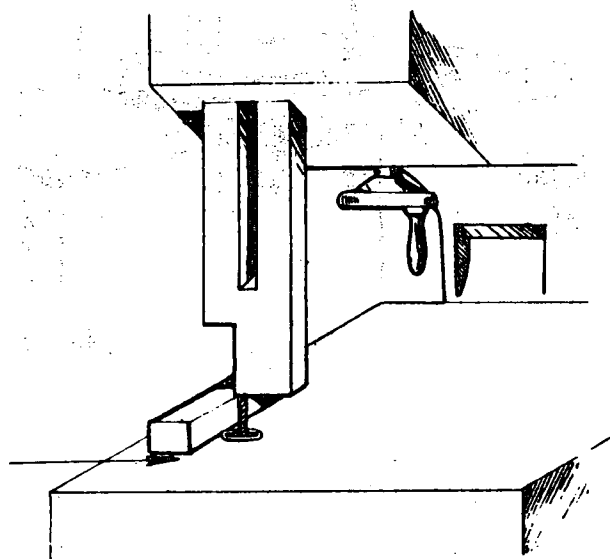

Fig. 4
- b) Push the material towards the blade using gentle pressure, and begin cutting (Fig. 4).